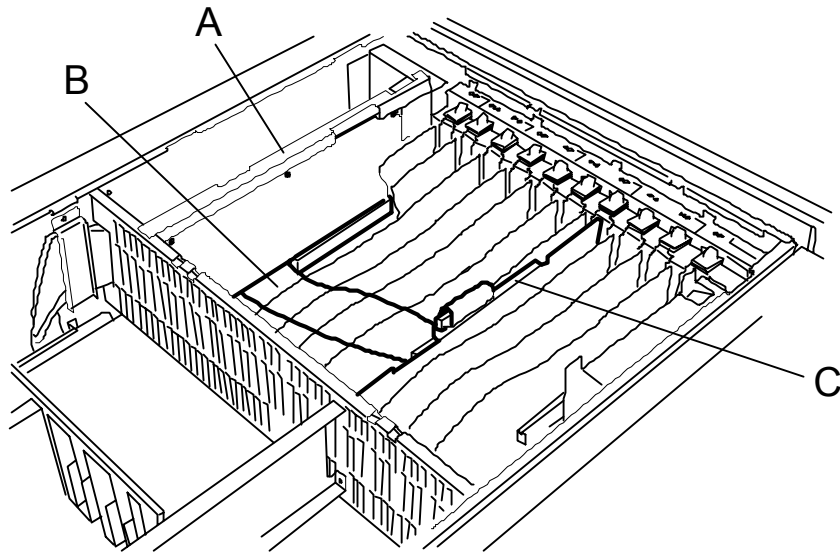

Figure 4-43. Recabling the SCSI Interface Cable
- Recable SCSI interface cable by passing it under the I/O riser board (A) and under the black insulator (B) to the RAID controller board (C), as shown in Figure 4-43.
- Reconnect the end of the SCSI interface cable just removed into the Channel 2 connector on the RAID controller board (C), as shown in Figure 4-43.